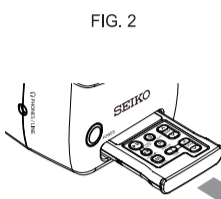

FIG. 2
- Pull the remote out of the main unit by hooking your finger in the notch as shown in FIG. 2 and pulling the remote forward.